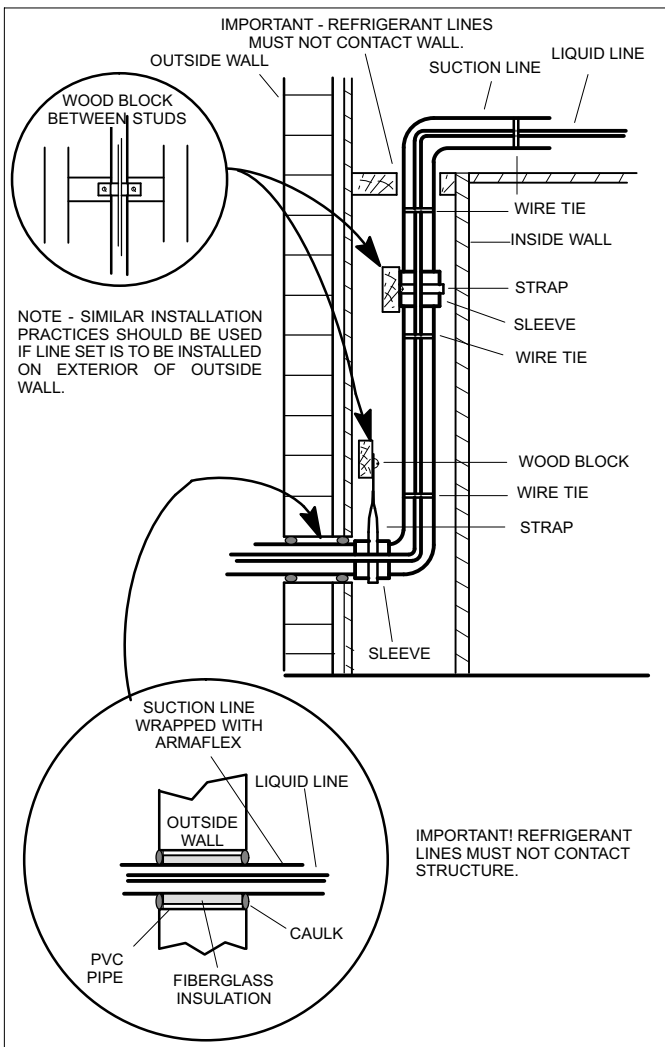

Figure 17. Refrigerant Line Set: Installing Vertical Runs (New Construction Shown)
- Installation of **line set on vertical runs** is illustrated in Figure 17.